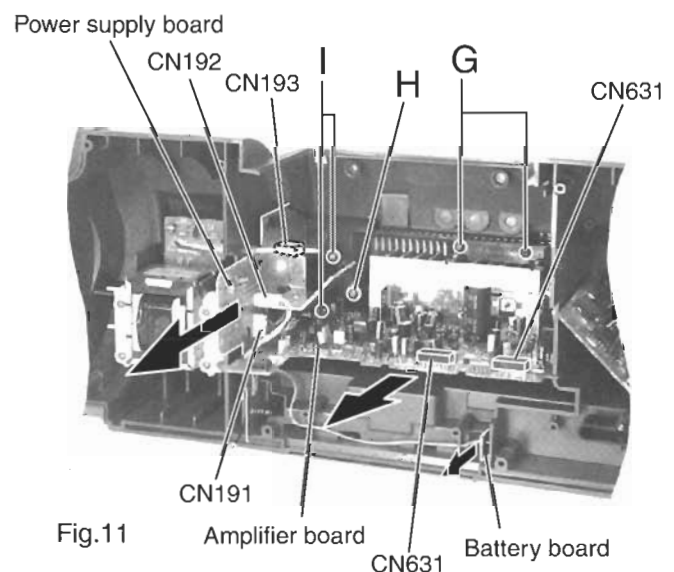

Fig.11
■ Remove the Amplifier Board, the Power Supply Board and the Battery Board (See Fig.11)
(See Fig.11)